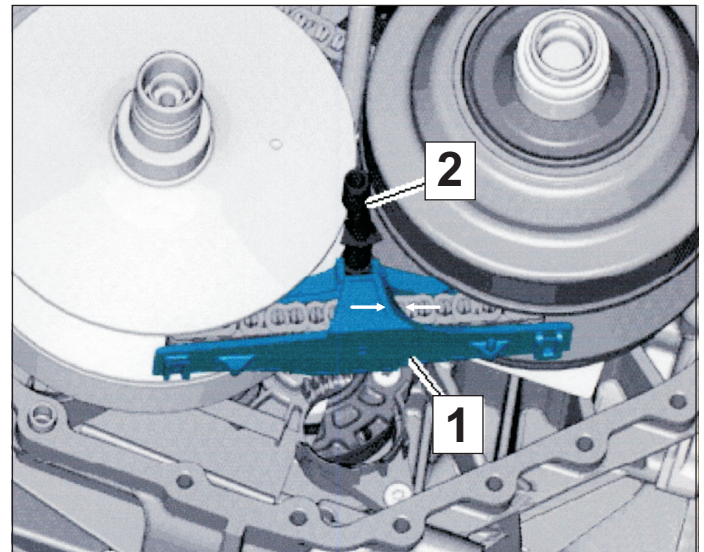

Figure 11
12. Mark the position of the guard rail (1) in relationship to the chain. Then, unclip the guide rail from the oil pipe (2) and detach both the rail and chain from the pulleys as seen in figure 11. *Caution is needed to ensure that the chain does not get kinked*
2. Clip the guide rail (1) onto the oil pipe (2) with chain inserted (refer to marking made upon removal to facilitate installation (figure 11).